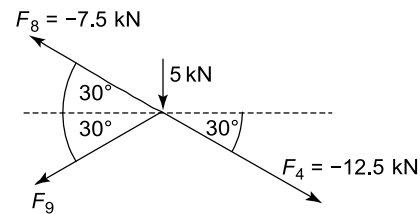

Figure 7.39
Consider joint (5); see Figure 7.39.